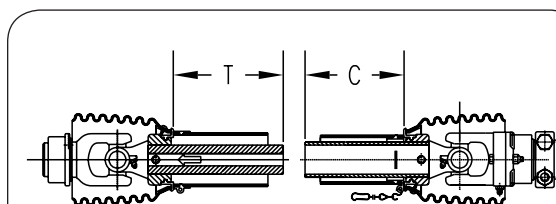

FIG. 4-46
2. Pull apart PTO telescoping shaft ends and measure lengths "T" & "C" (Fig. 4-46).